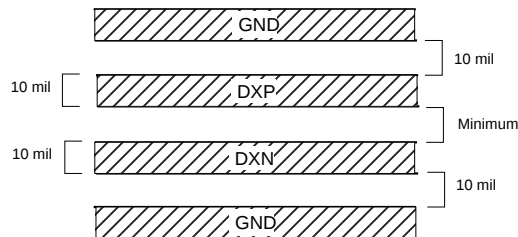

Figure 9. DXP/DXN PC Traces
- Connect guard traces to GND on either side of the DXP and DXN traces (Figure 9). With guard traces in place, routing near high-voltage traces is not a problem. Provide a GND plane under the traces, if possible.
- Use wide traces for routing to remote diodes. Narrow traces are more inductive, and tend to pick up radiated noise. The 10 mil widths and spacings recommended in Figure 9 are not absolutely necessary (as they offer only a minor improvement in leakage and noise), but try to use them where practical.